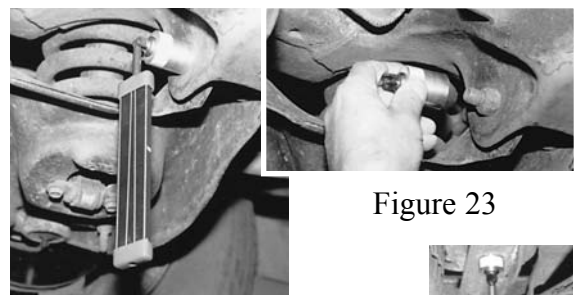

Figure 23
*Threaded Attachments* (optional)- allow operator to thread the attachment onto extruding bolt threads. (Figure 23 and its inset show an example of a threaded attachment.)